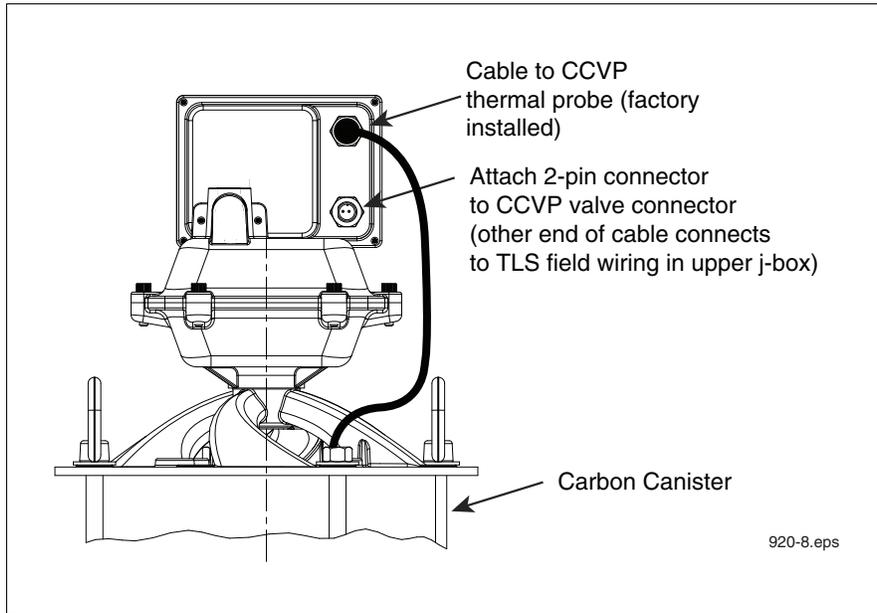

Figure 4. Locating the CCVP vapor valve connector
10. Connect the two-pin connector of the 6-foot cable provided in the installation kit to the CCVP vapor valve, observing plug polarities (see Figure 4). The other end of this cable is passed through a kit supplied cord grip in the upper junction box.